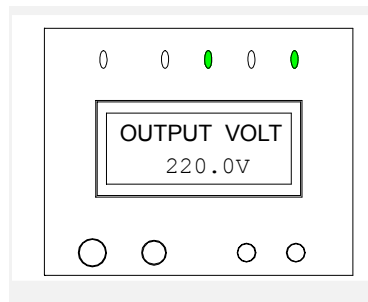

Figure 3-9
1. Press and hold the ON/SILENCE button for about 1 second, after a beep and system self-test, the battery indicator and inverter indicator turns green, as shown in Fig. 3-9, and the buzzer beeps every 3 seconds, indicating the UPS is operating in Battery mode.